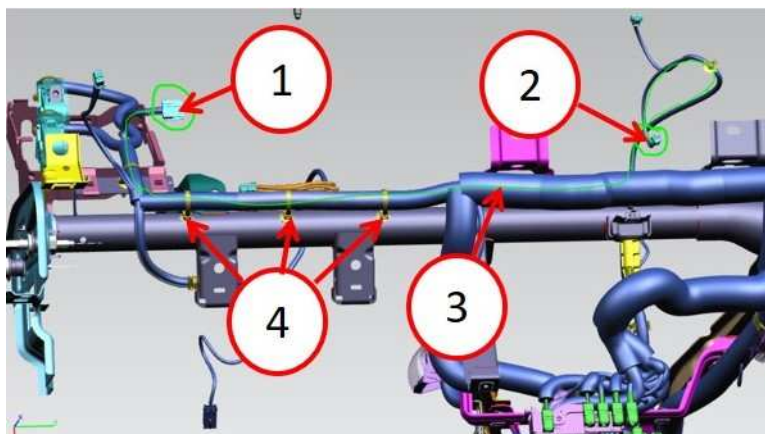

Fig. 2
7. Route the jumper wire harness from the sun sensor connector D1561A, to the Heating, Ventilation and Air Conditioning (HVAC) control module connector D3828A behind the Instrument Panel (IP) (Fig. 2) .
8. Secure the jumper wire harness to the headlamp wire harness with three 150 mm length (6 in.) by 3 mm (.011) wide tie straps (Fig. 2) .